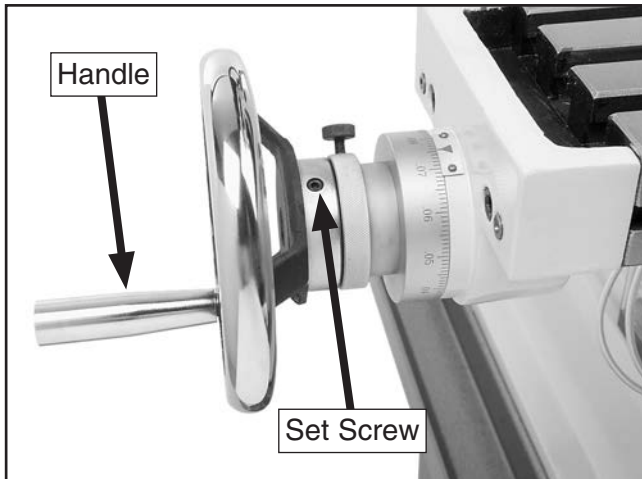

Figure 11. Handle and handwheel installed.
1. Install the four handles into the table handwheels and the elevation crank (see **Figure 11**).